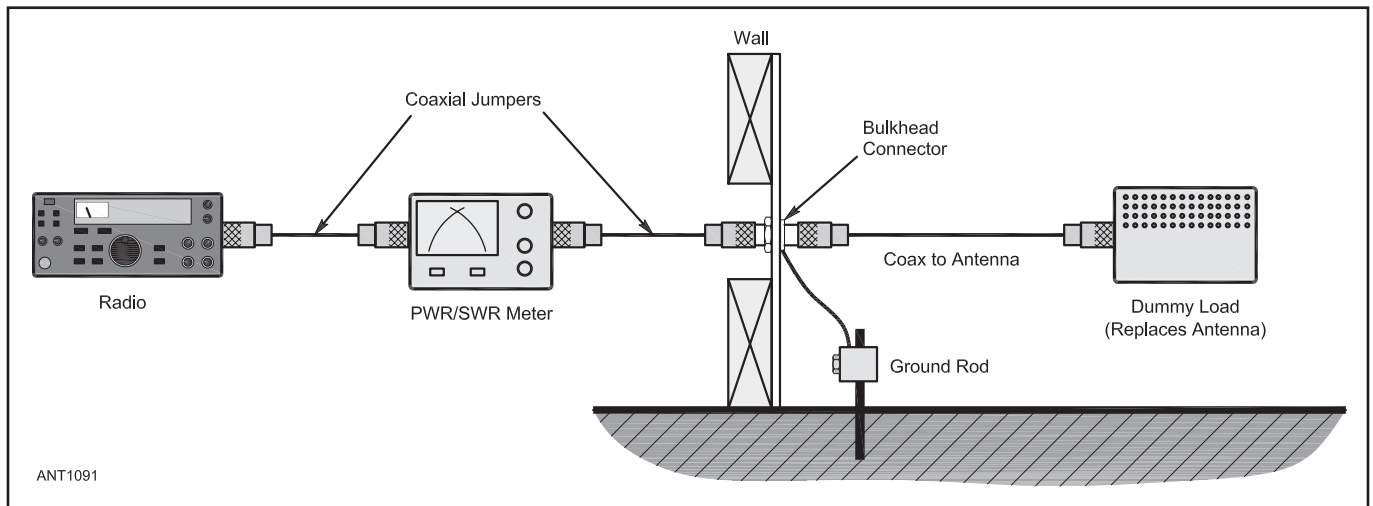

Figure 28.2 — Test setup to check SWR with the antenna replaced by a dummy load.
- 3) Reconnect the bulkhead connector or radio end of the main coax. You should now have connected in sequence; radio, jumper, power/SWR meter, jumper, bulkhead/wall connector, main coax and dummy load as in **Figure 28.2**.